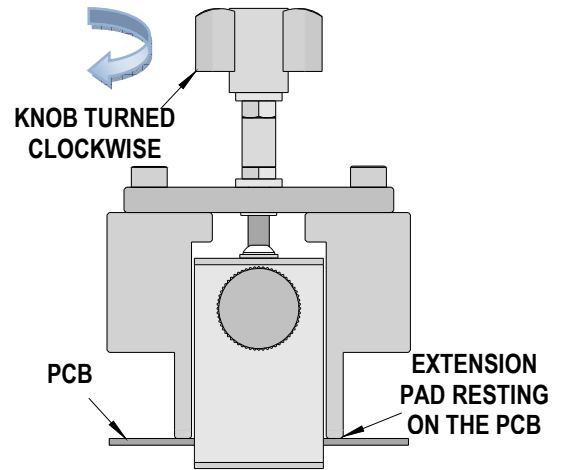

Figure 7
7. Turn the wing knob clockwise (CW) until the extension pads contact the printed circuit board. See Figure 7.
8. Continue turning the wing knob clockwise (CW) until the Daughtercard module is removed from the printed circuit board.